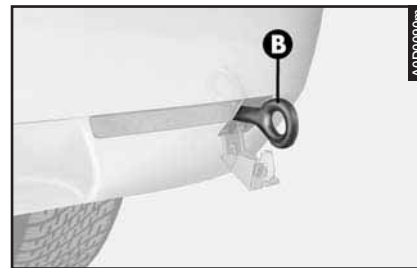

fig. 99
– Firmly screw the ring (**B-fig. 99**) in its housing.